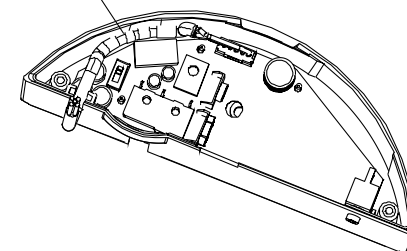

FIG. 2
5. Route harness wires as shown (Fig. 2).